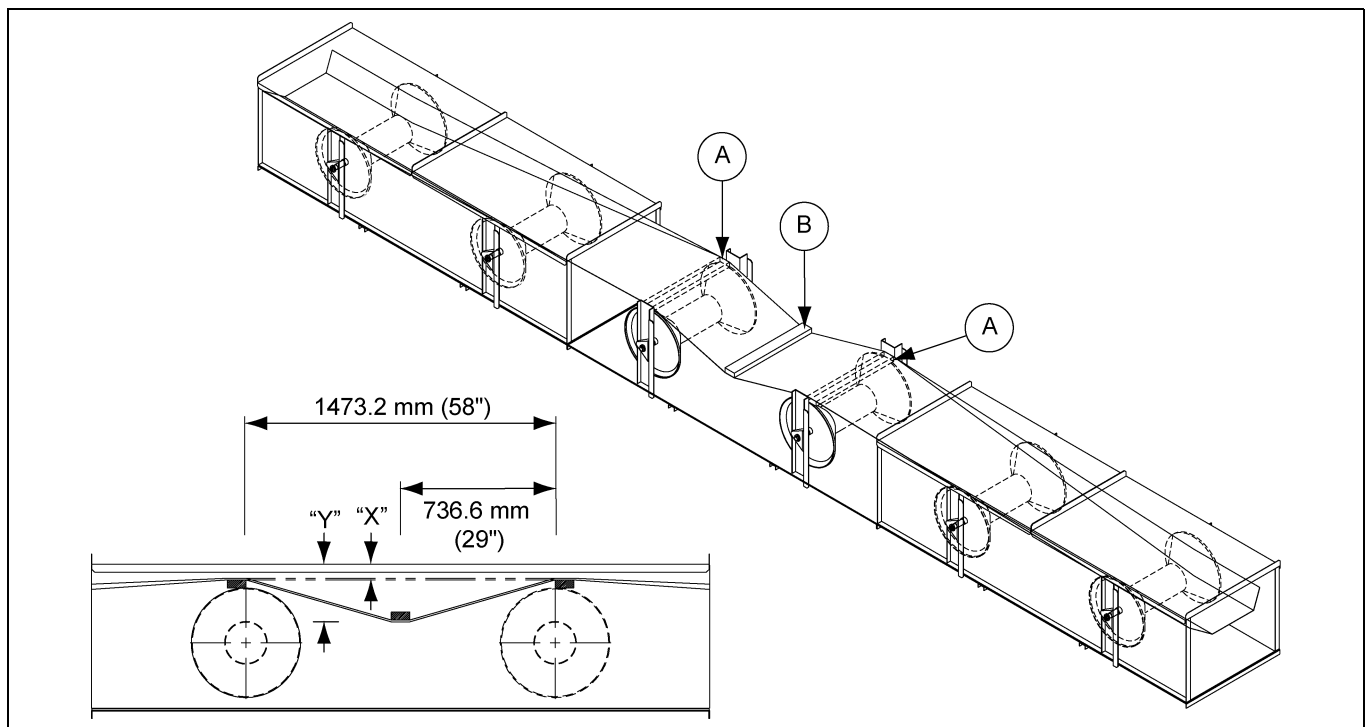
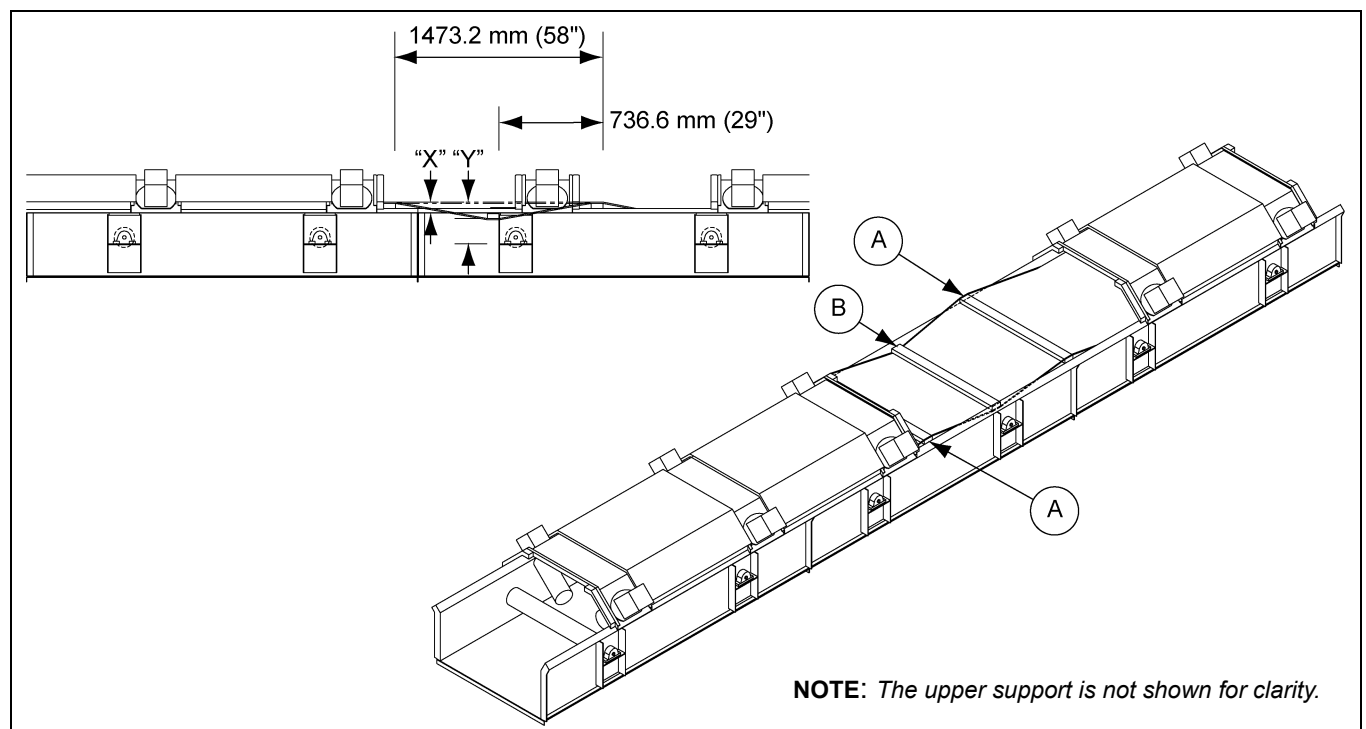

Figure 4S Standard Roller Flo Belt Tensioning Procedure
Figure 4T 3i Roller Flo Belt Tensioning Procedure
The following steps will assist in properly adjusting the take-up to ensure proper tension in the belt during normal operation. Figure 4S and Figure 4T on Page 33 can be used to assist in the following procedures.
10. With belt slack (no pre-tension), place the supports and weight. The weight must be precisely mid-way between the supports. (See Figure 4S on Page 33.)